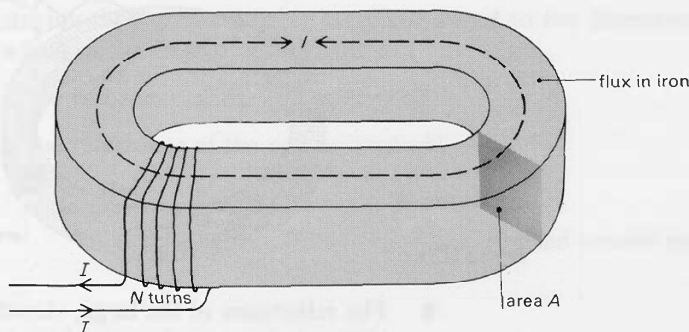

Figure H89
- 31(L)** Figure H89 shows an iron ring, in which magnetic flux Φ is set up by N turns of wire wrapped round the ring, carrying current I . The flux Φ is given by